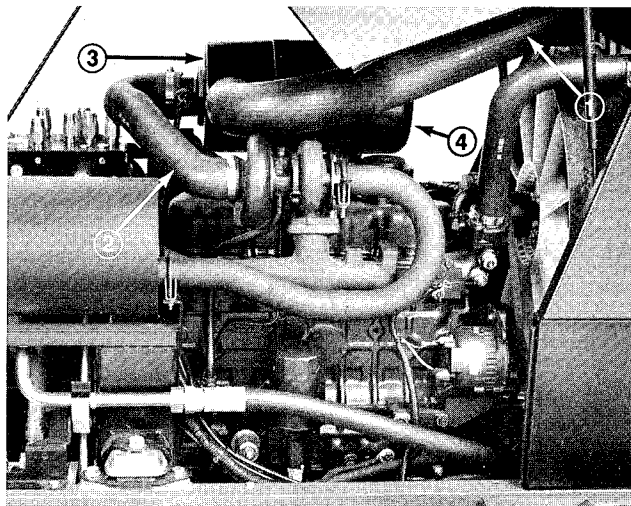

Figure 43
2. Assure inlet hose between upper radiator support and air cleaner and outlet hose between air cleaner and turbo-charger are not cracked or punctured and hose connections are secure (Fig. 43). Replace or repair, as necessary.
4. Insure dust cup/body area is completely sealed (Fig. 43).